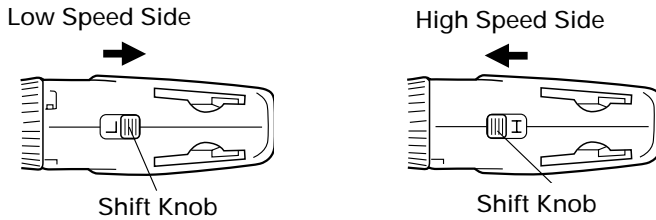

Fig. 13
7. High speed–Low speed changeover (Fig. 13)
- To ensure the engagement of the gear, push the shift knob to the end. (Fig. 13)